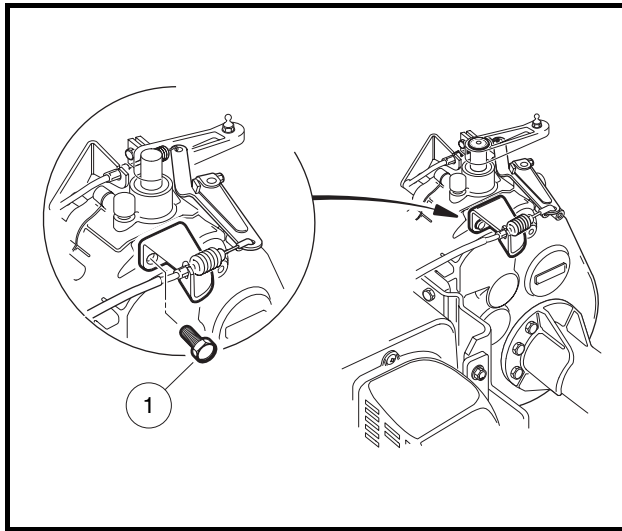

Figure 18-32 Governor Cable Bracket
19. Remove screws (1) securing the governor cable bracket to transaxle (**Figure 18-32, Page 18-13**).
7. Install the governor cable bracket on transaxle case. Tighten the mounting screws to 134 in-lb (15.1 N·m) (**Figure 18-32, Page 18-13**).